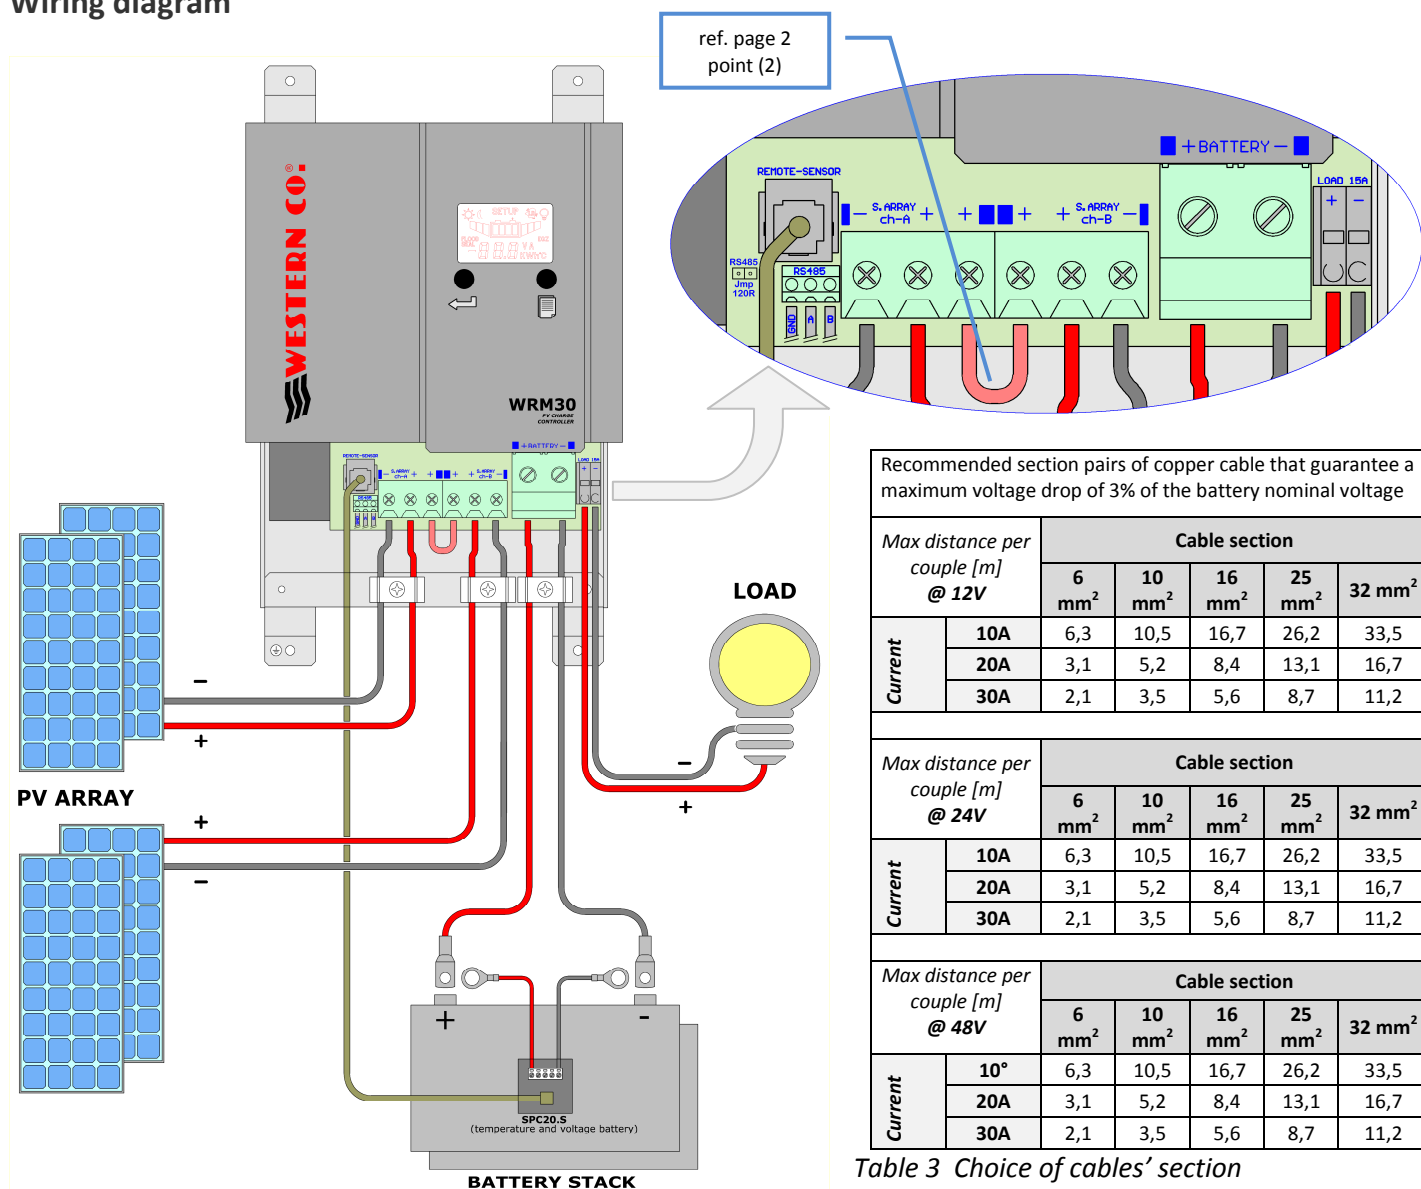

Fig. 2 Wiring diagram
- 3) Connect in order: load, sensor for measure of battery temperature and voltage (included), PV module, and finally the battery as in the diagram *fig. 2*. At battery connection, the charge controller turns on and starts to work. The cable sections must be chosen so that in each length of cable the maximum permissible voltage drop is less than 3% of the system nominal voltage (Table 3).